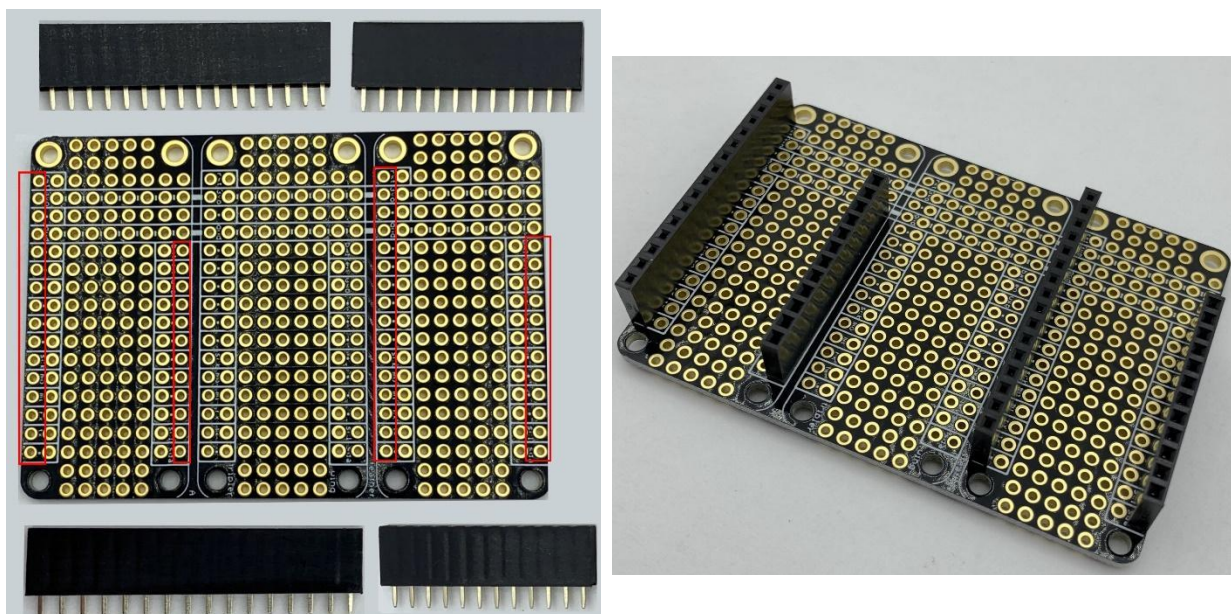

Figure 11: Tripler with headers separate and placement shown with red outlines (left) and assembled (right).
Components (Figure 11, left):
1. Insert pins of female headers into outer most holes for the first and third board outlines as shown with the added red outlines in Figure 11 (left).
2. Flip the board over and solder each pin into place (Figure 11, right).